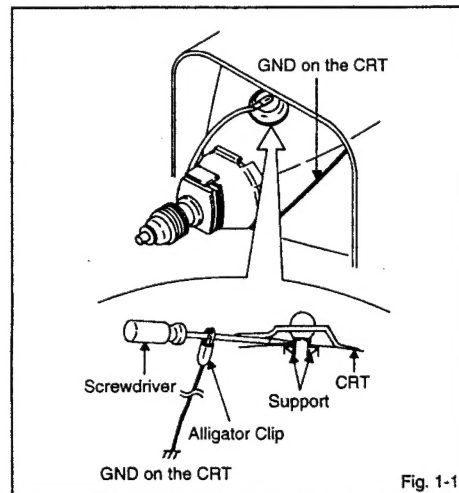

Fig. 1-1
1. Follow the steps as follows to discharge the Anode Cap. (Refer to Fig. 1-1.)